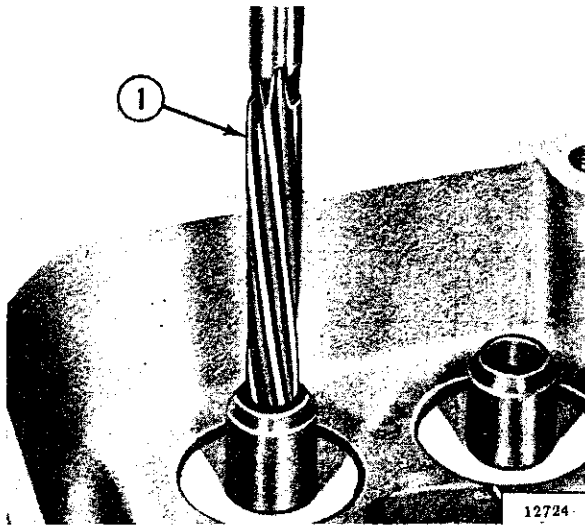

FIG. D1-28—CLEANING OR ENLARGING VALVE GUIDE
- b. Clean carbon and gum deposits from valve guide bores with a standard-size valve guide reamer. Refer to Fig. D1-28.